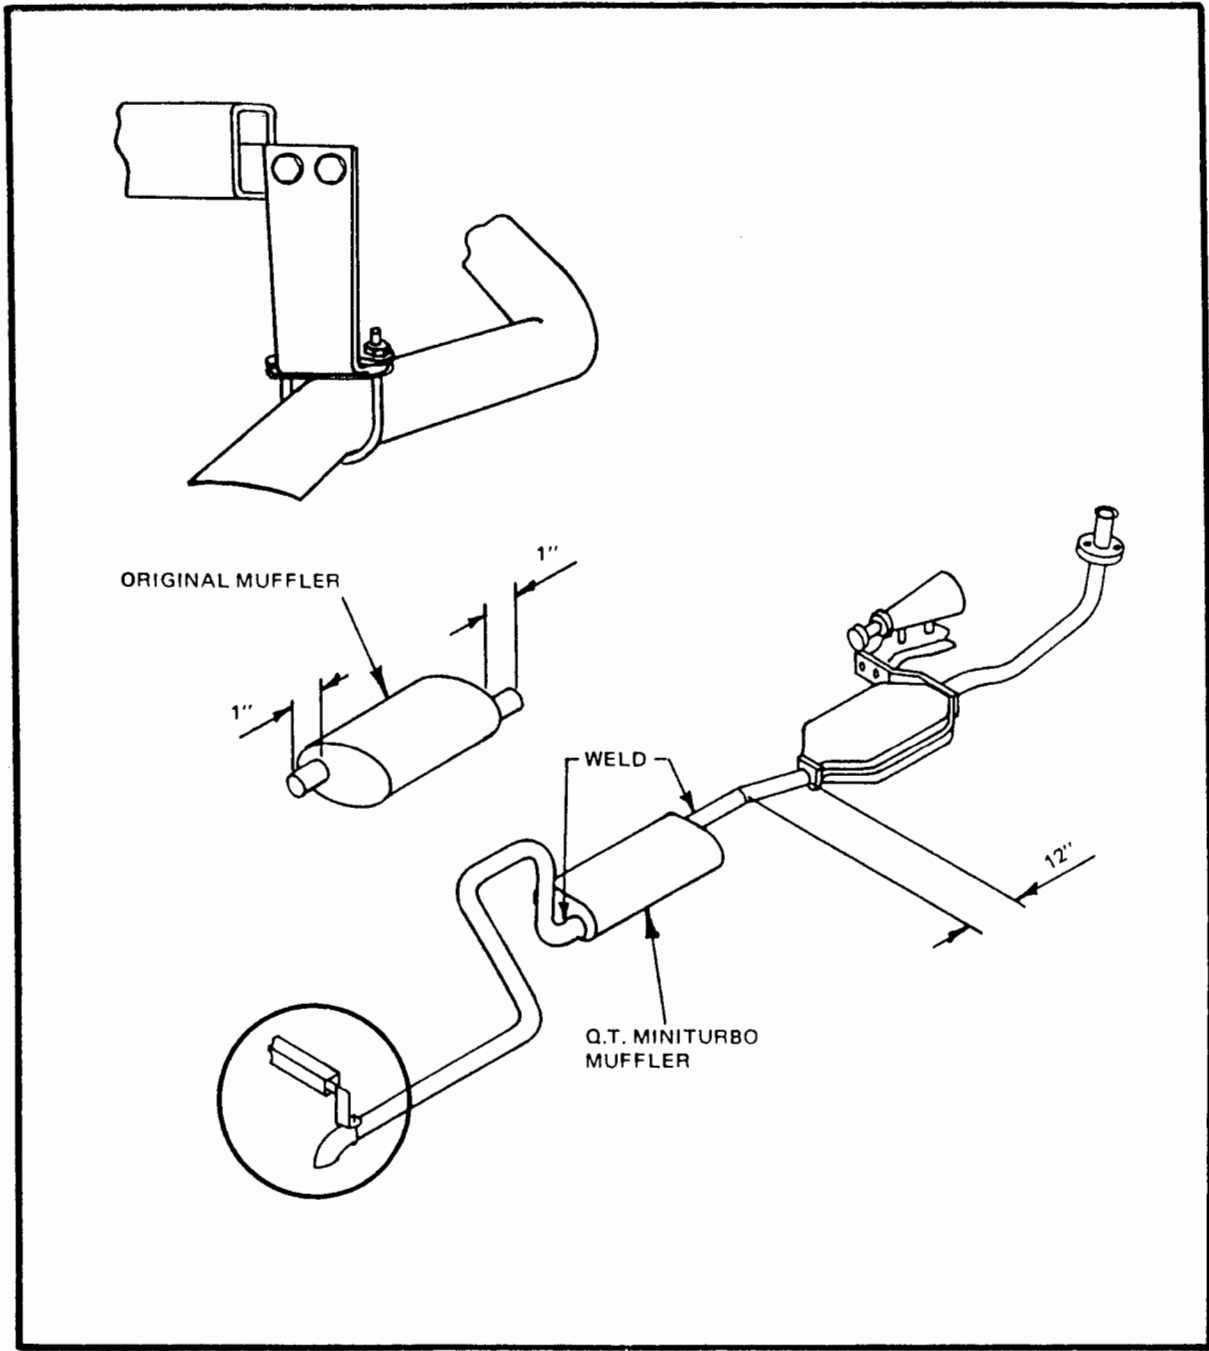

Figure 14
- The rear of the tail pipe is suspended from a strap type hanger (1 3/4" pipe). Loosely attach to tail pipe and find best position for securing hanger to frame. Bolt using 1/4 x 1" bolt with flat washer, lock washer and nut. Tighten clamp. (Figure 14)